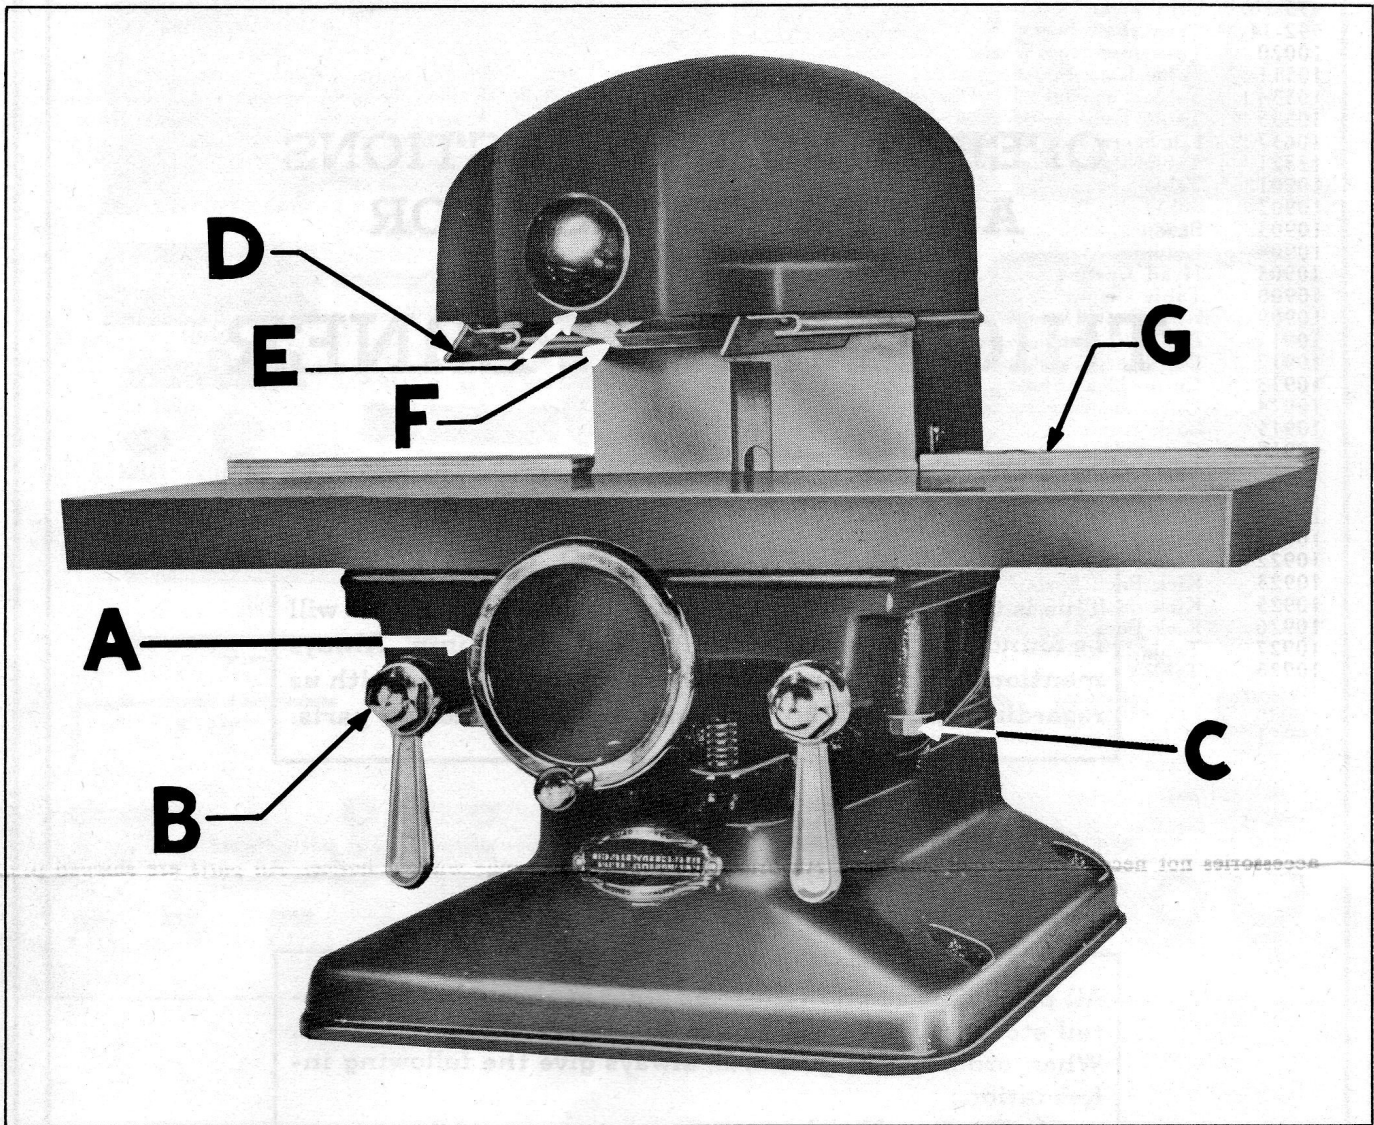

FIG. 1
The handwheel (A) in figure 1 when turned will raise or lower the table $\frac{1}{16}$ inch per revolution through a range of approx-
The table surface has been set parallel with the cutter head and blades, and should require no further adjustment unless misaligned as a result of a severe shock. If adjustment is necessary, insert a block 6 inches long, with straight parallel sides, between the surface of the cutter head (not a blade) and the table surface. Loosen the two hex head cap screws (C) in figure 1, which will allow the table to shift to the proper position. Raise the table until the block is clamped firmly between the full length of the cutter head and the table surface. With the table thus held parallel with the cutter head, tighten the two cap screws securely.